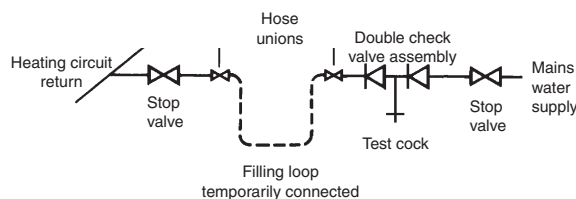

Fig. 4.6
4.8 FILLING THE CENTRAL HEATING SYSTEM - Fig. 4.6
Filling of the system must be carried out in a manner approved by the local Water Undertaking. Where allowed, the system may be filled via a temporary connection as shown in Fig. 4.6. After filling, always disconnect the flexible hose of the filling loop.